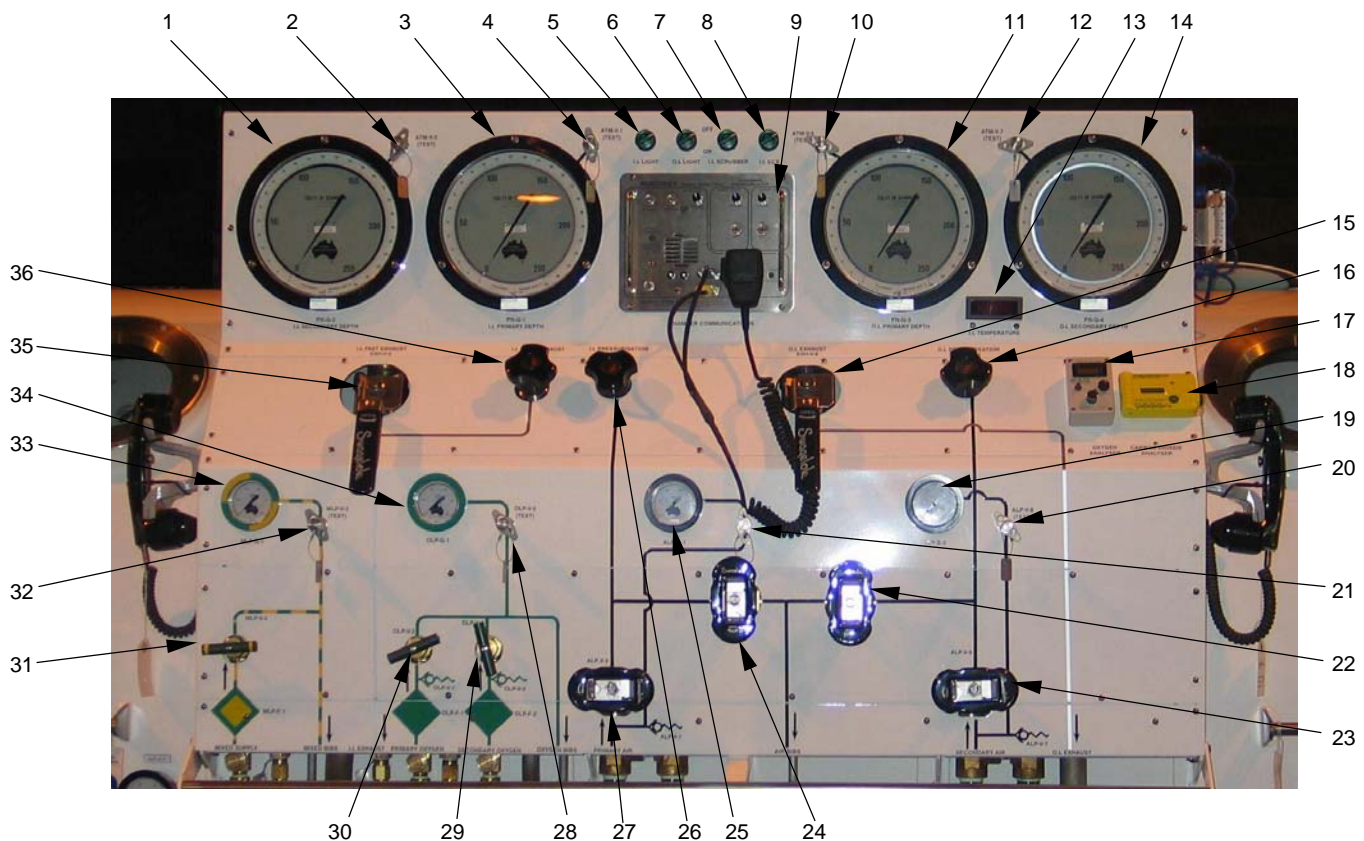

Figure 2-5. Chamber Control Console
**2-5.1 SSDLRCS CONTROL CONSOLE.** Installed on the front of the recompression chamber, the SSDLRCS Control Console (see Figure 2-5) is the primary control and monitoring station for the safe operation and administration of the medical treatment for the personnel involved in diving accidents, controlled decompression, maintenance of diver saturation conditions, or other treatment where hyperbaric conditions are indicated. The following controls and indicators are found at the SSDLRCS control console.
Table 2-1 shows the functions and normal operating conditions of the Chamber Control Console components identified in Figure 2-5.